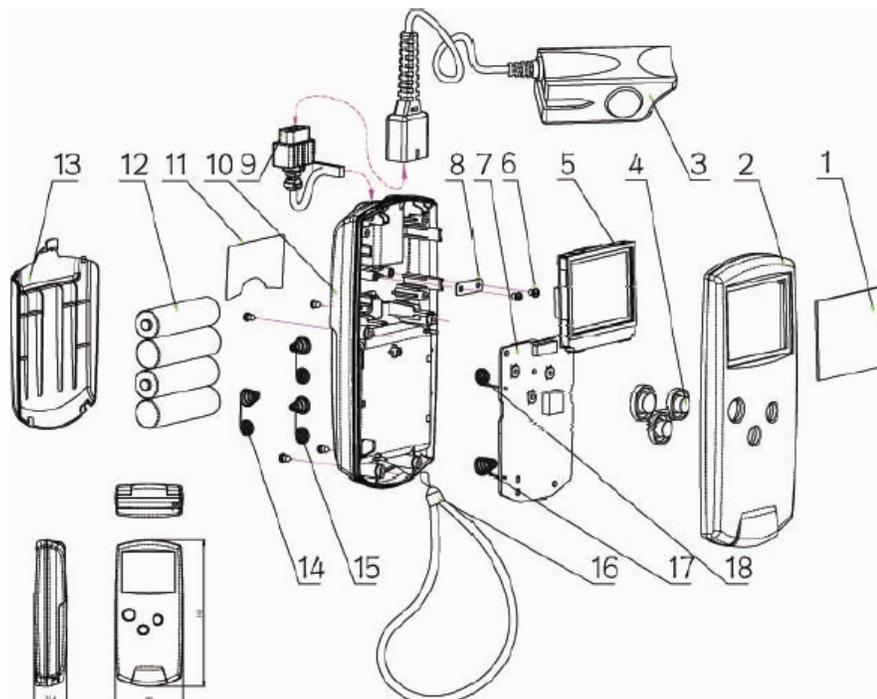

Fig 4-1 DPM1 Explosive diagram (115-001428-00)
3. Take the battery cover off (as shown in Fig4-1) .